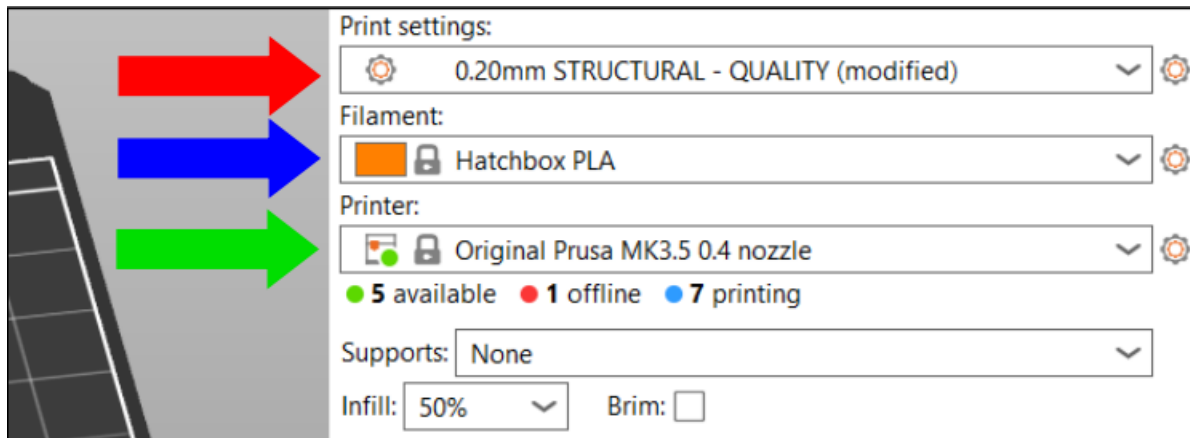

Figure 4. Main Plate Settings
6.) Go back to the “Plater” tab in the top left corner of PrusaSlicer. Then click the “Print settings” drop-down menu and select the 0.20mm Structural option (see red arrow in Figure 4).
- 7.) Open the Filament drop-down menu (see blue arrow in Figure 4) and select the filament type you want to print in.
- 8.) Open the Printer drop-down menu (see green arrow in Figure 4) and select your printer make and model.